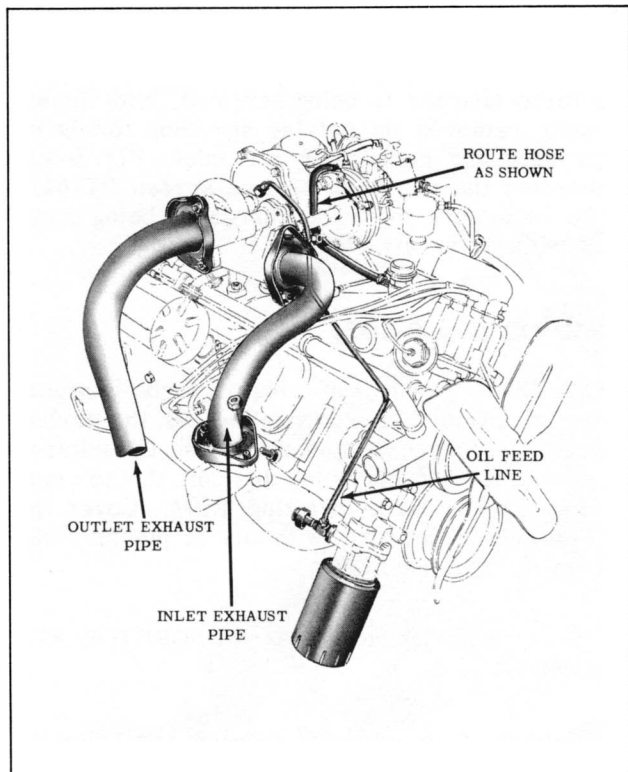

Fig. 8-108 Exhaust Pipe Connections
2. Remove turbo-charger exhaust inlet pipe by removing the four flange attaching nuts. (Fig. 8-108)